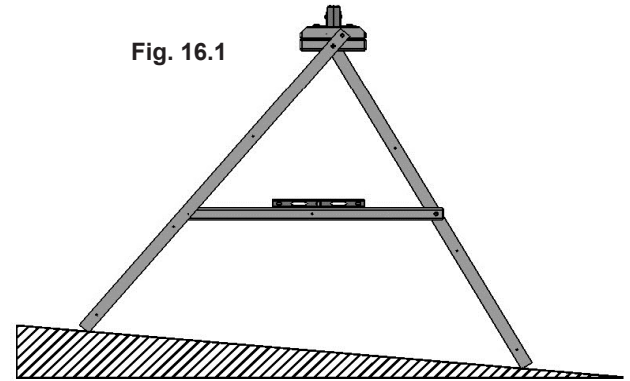

Fig. 16.1
A: To adjust for uneven ground, raise or lower the (160) Support Cross on the (152) SW Post. Make sure the Support Cross is level prior to attaching with the lag screws. (fig. 16.1 and 16.2)